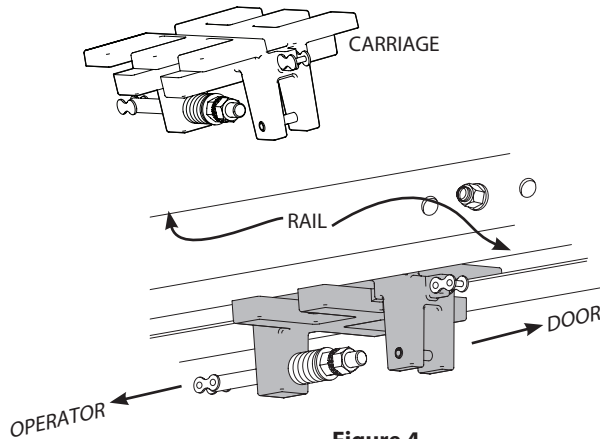

Figure 4
3) Insert the carriage into the tracks as shown in **Fig. 4**.